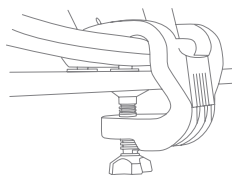

Figure 1
Step 1. Place the wheel in a comfortable driving position (on a desk or table) and press the base unit down firmly on the surface. (See Figure 1)